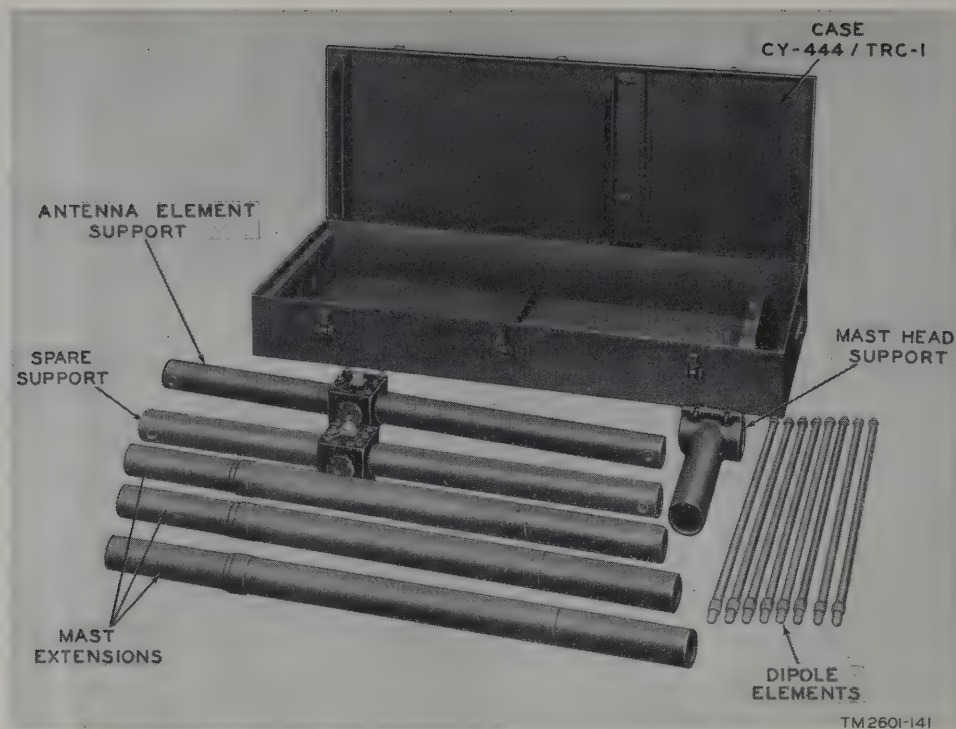

Figure 40. Components of late model Antenna AS-20F/TRC-1
- (2) Late models of Antenna System AS-19F/TRC-1 use the same support (Antenna Support AB-33C/TRC-1 as the E and early F models. However, late models of Antenna AS-20F/TRC-1 (fig. 40) have been further modified, so that it is possible to get either vertical or horizontal polarization of the transmitted signal. This antenna may be adjusted to emit a circular pattern by using one vertical dipole.